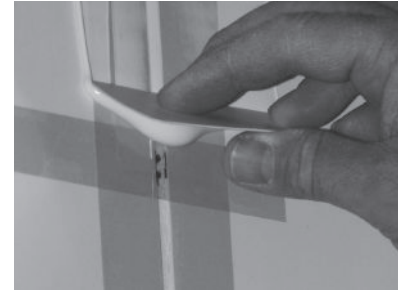

FIGURE 17: APPLYING THE PAINTER TAPE HORIZONTAL IN 3' SECTIONS
4. A good technique is to add a small horizontal piece of painter's tape every 3' and ensure that there is enough sealant in the cartridge to complete a full seam. Performing a cartridge change in the middle of a seam application could increase the risk of exceeding the open time of the sealant (Figure 17).